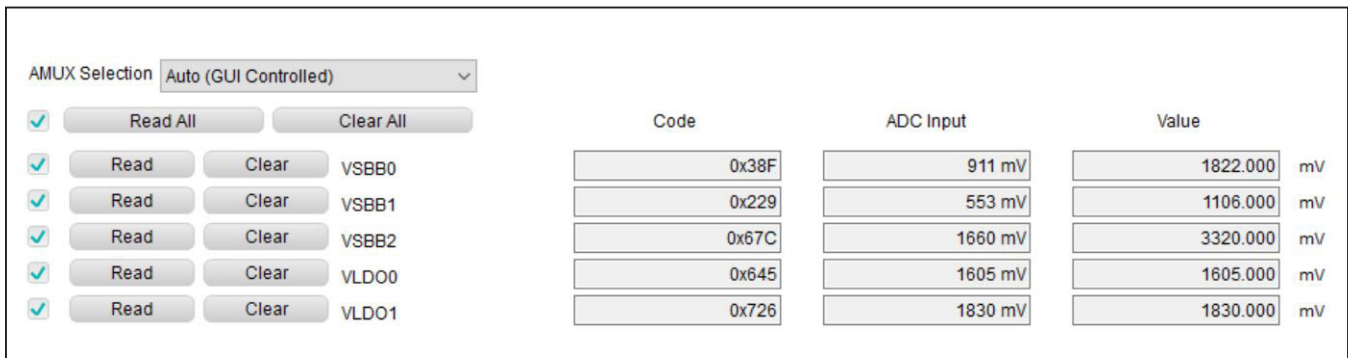

Figure 6. Quick Start: Regulator Check with the ADC
- 7) On the **ADC/AMUX** tab of the GUI, click the **Read** buttons next to VSBB0, VSBB1, VSBB2, VLDO0, and VLDO1. For the MAX77654M, 1.8V, 1.1V, 3.3V, 1.6V, and 1.8V should appear, respectively (Figure 6).